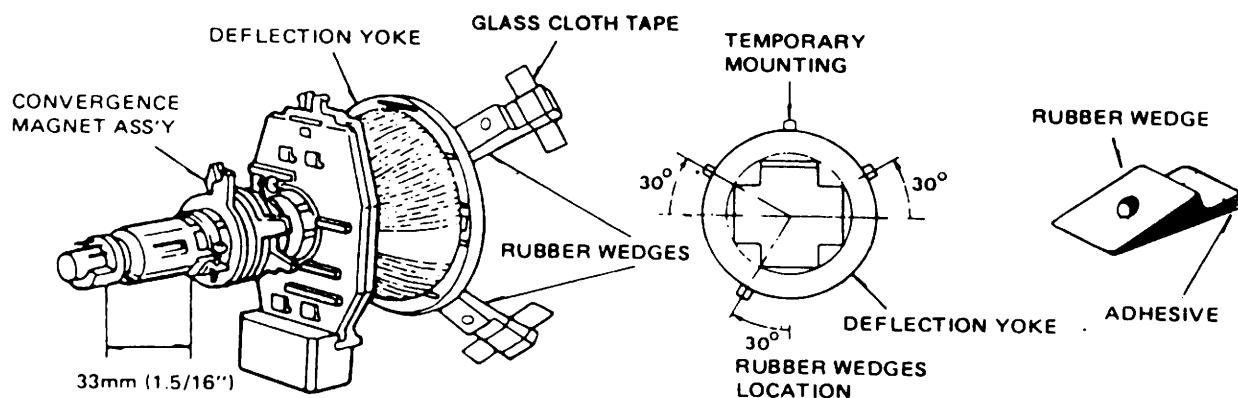

Fig.3
9. Stick three adhesive tapes on wedges as shown in figure 3.